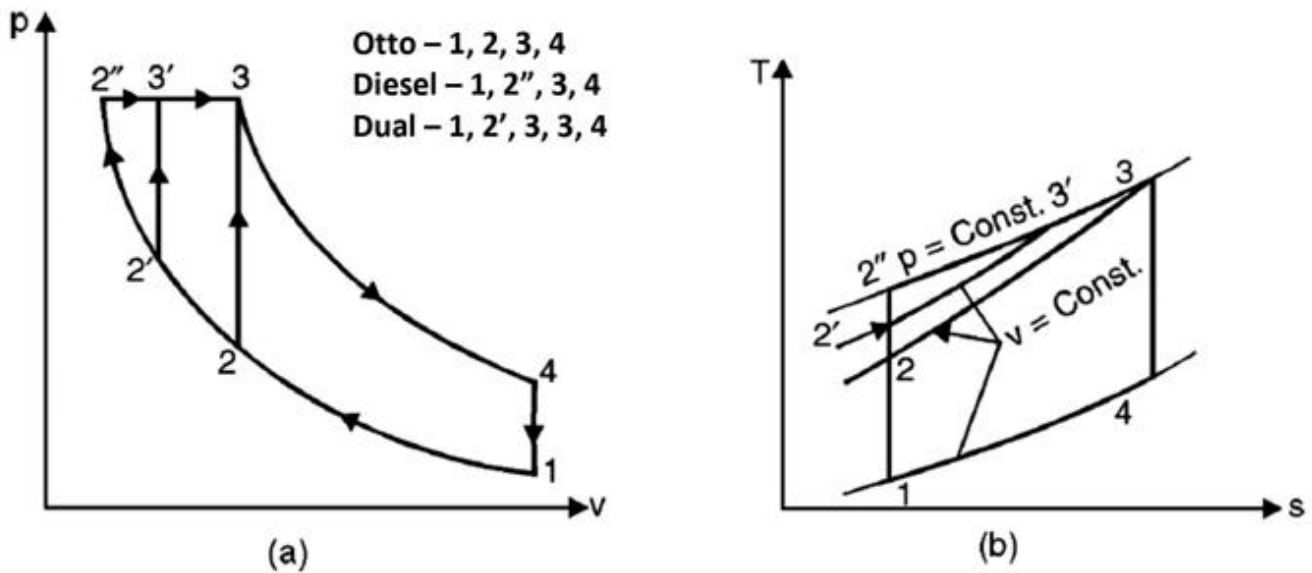

Fig. 7.9 (a) P-V diagram and (b) T-S diagram
- From Fig. 7.9 it is clear that the heat rejected is same for all the three cycles. Hence with the same heat rejected, the cycle with greater heat addition is more efficient.
- From Fig. 7.9,